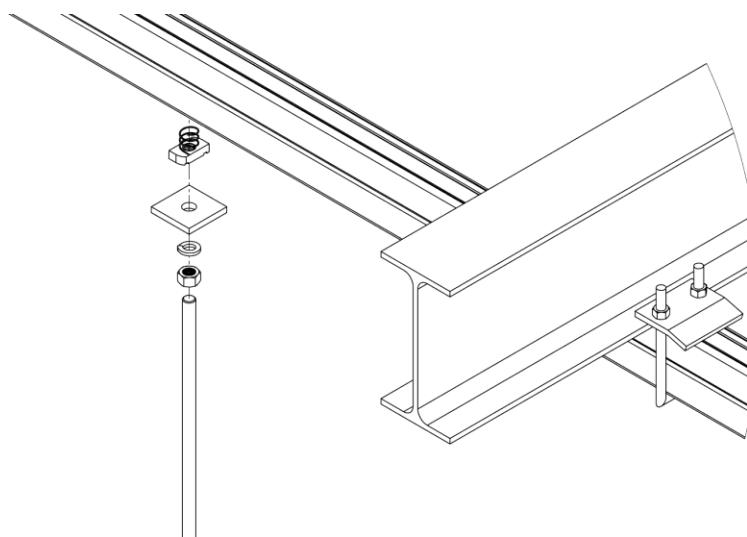

Figure 282: **Attach the Threaded Rod to the Strut Channel**
9. Attach the threaded rod to the 1 5/8" slotted (1/2") strut channel where the attachment point is to be located, using a hex nut, lock washer, square strut washer, and channel nut (Figure 282).